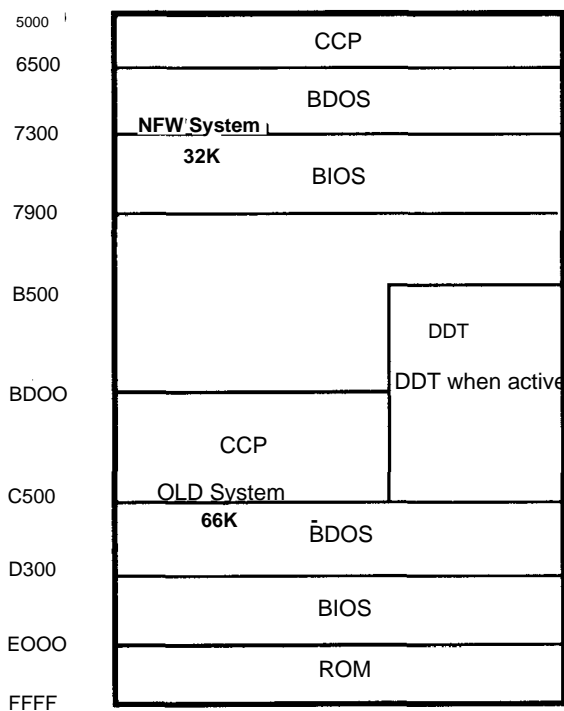

Figure 2: The memory map of CP/M. Also the BIOS JMP table. Two memory maps, one for 32K development and one for maximum memory with the DJ2D.
desired memory size. To modify the BIOS, the user re-assembled it at the desired memory size as well. (Hint: some MOVCPM's will also re-address the BIOS code as well as CP/M, so reassembly is unnecessary.) Traditionally, DDT was used to "glue" these two together in memory, and SYSGEN was used to copy them to the boot tracks. (I'll use DU instead!) Figure 2 shows typical addresses for CP/M's CCP, BDOS, and the BIOS for a 56K RAM machine. (Hint: CP/M systems with double density or larger sector sizes have more room for both a bigger boot program and a bigger BIOS, so these addresses can vary! Read your docs and prow through your current system with DU.) See the Sidebar for more details on MOVCPM, DDT, DU, and other terms.
2) The original CP/M must run in higher memory, while the "test" CP/M will be loaded and run in lower memory; and these must also not overlap. See figure 2 for a reasonable memory map of such a configuration. Note that DDT resides just below BDOS when DDT is loaded; its size must also be taken into account. Building a 32K "test" system will give plenty of room for both CP/M's, although it will be too cramped for any serious work later.